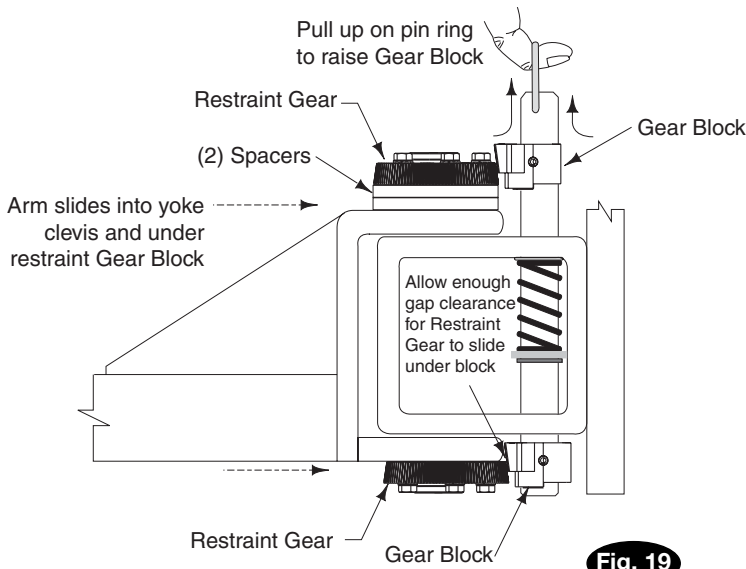

**Fig. 18**
Arm Clevis with (3) 3/8"-16NC x 2" Lg. HHC Screws and 3/8" Spring Lockwashers as illustrated Fig. 18, but do not tighten.
- Install Restraint Gear B with (3) 3/8"-16NC x 1 1/2" Lg. and 3/8" Spring Lockwashers as illustrated Fig. 18, but do not tighten.